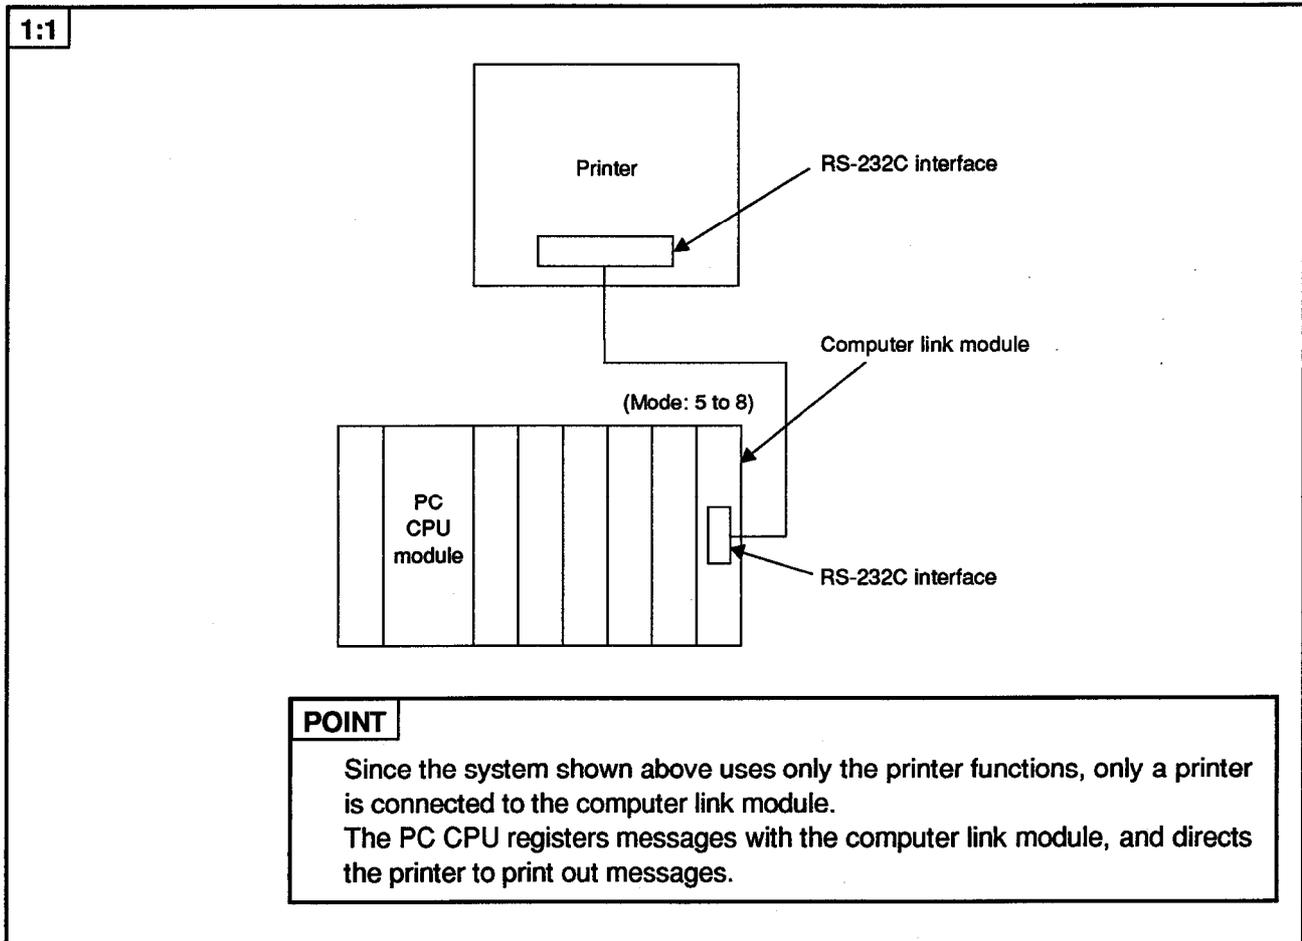

Fig. 14.1 System Configurations (I)
(1) The system configuration for a 1:1 ratio of a printer to a PC CPU is shown in Fig. 14.1 below.